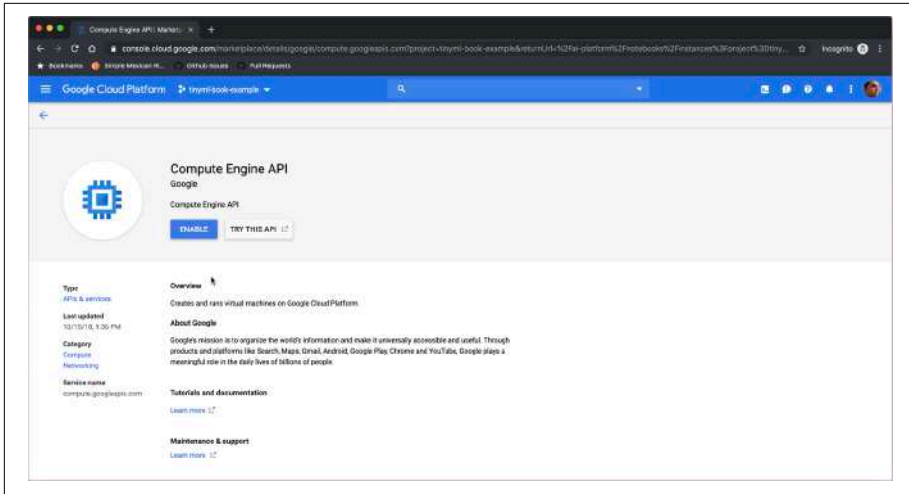

Figure 10-2. The Compute Engine API screen
4. You might see a prompt asking you to enable the Compute Engine API to proceed, as depicted in Figure 10-2; go ahead and approve it. This can take several minutes to go through.